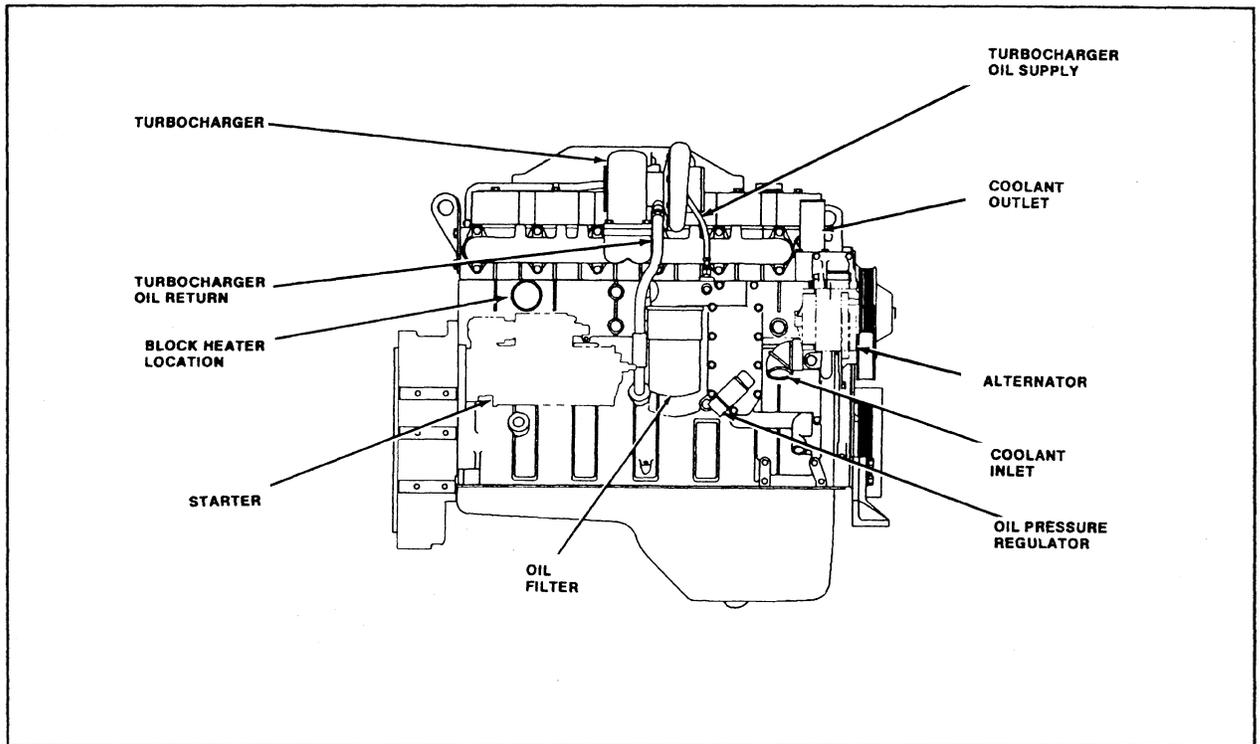

FIGURE 2-1: Engine Right Side
5. Remove clamps securing exhaust pipe to turbocharger and remove exhaust pipe. Cover turbocharger opening (Figure 2-1).